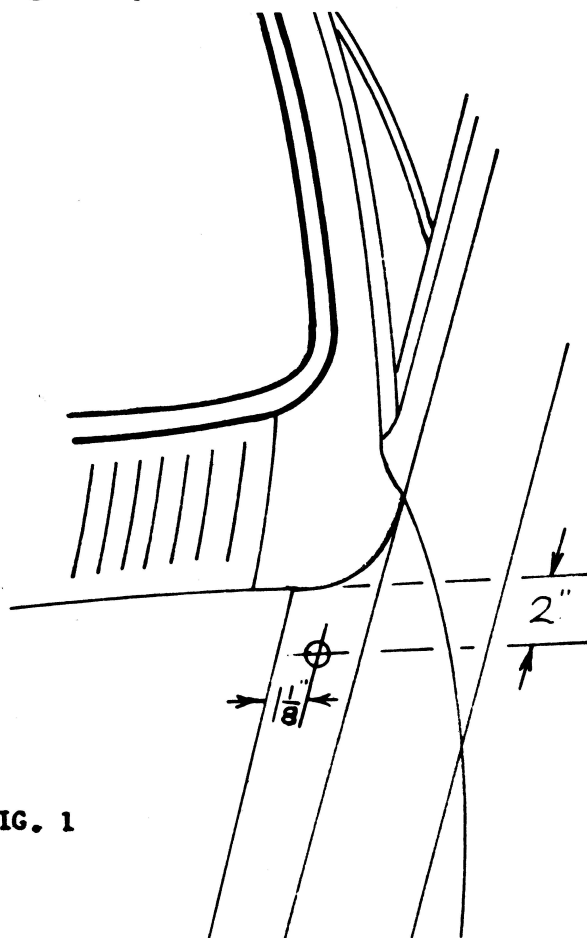

FIG. 1
1. Drill a small pilot hole to the dimensions shown in FIG.1 and check for clearance under the mudguard.